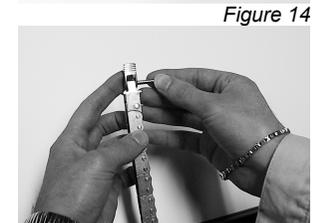

Figure 14
- D. Bore holes in the window frame at the points indicated (fig. 14).